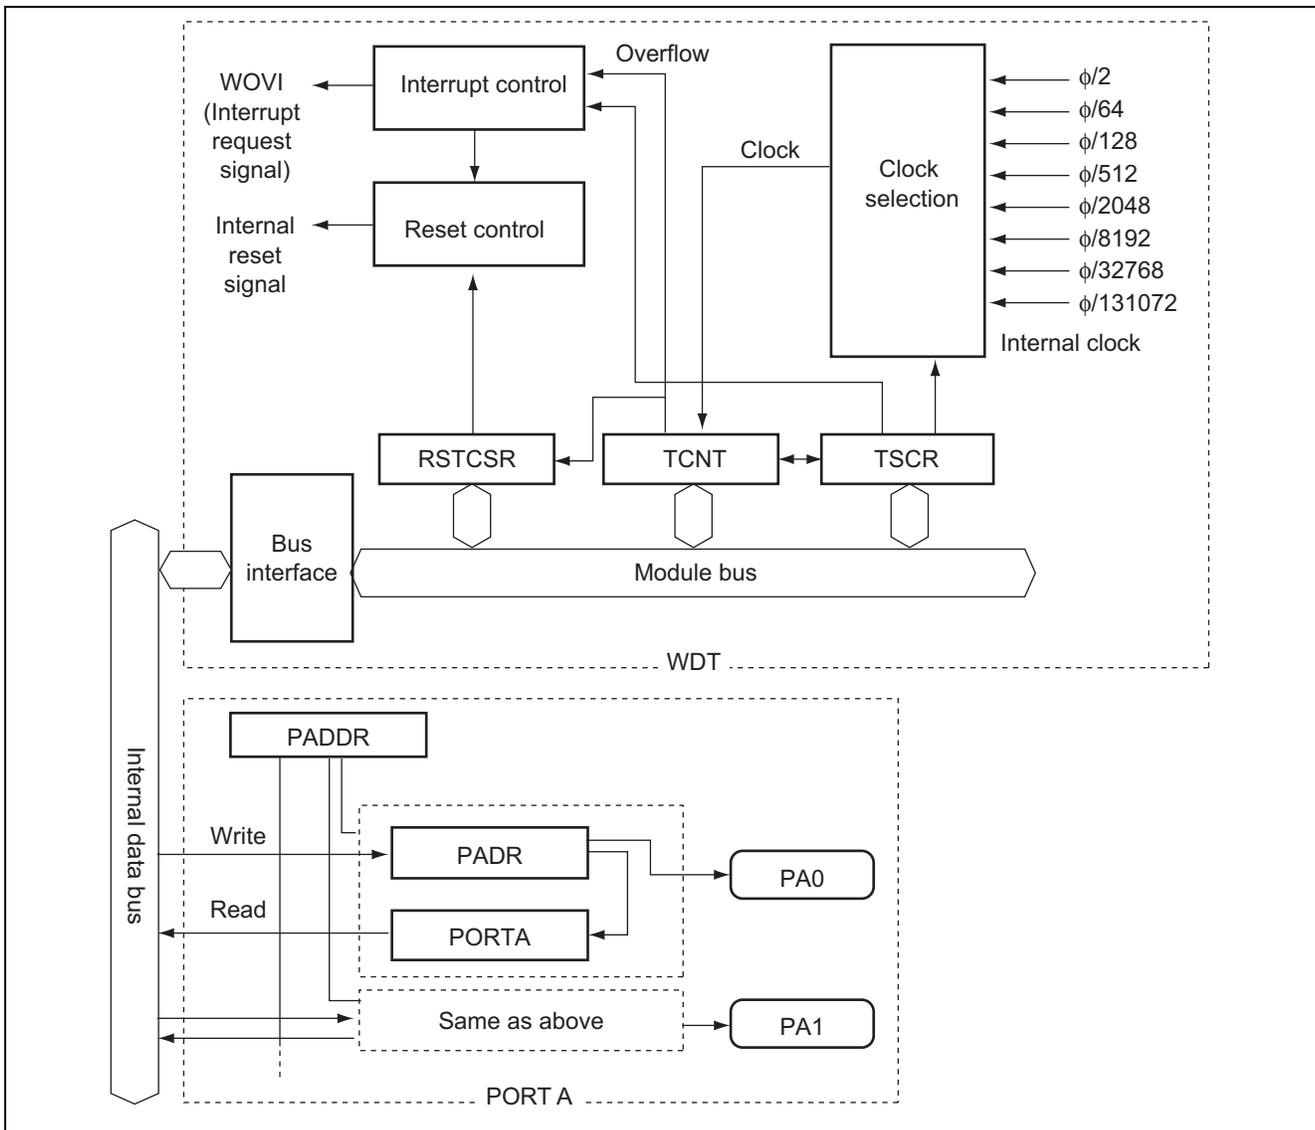

Figure 2 WDT and Signals Output from Port A Pins for This Sample Task
1. The upper part of figure 2 shows the block diagram of the interval timer, and the following is the description of the block diagram:
2. The lower part of figure 2 shows the signal routes to port A, and the following is the description of port A registers: